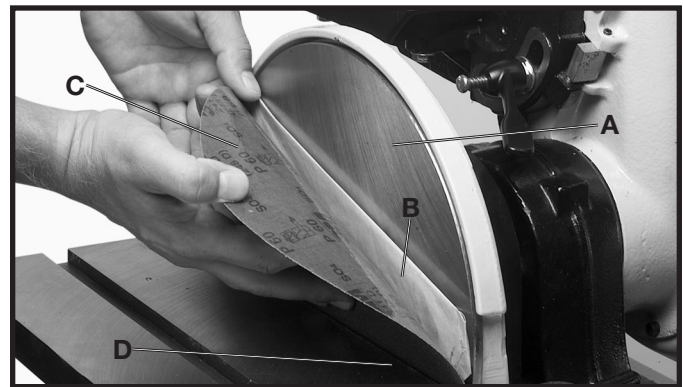

Fig. 8
1. Make certain the disc assembly (A) Fig. 8, is clean, dry, and free of any oil or grease.
2. Separate and fold back approximately half of the adhesive backing (B) Fig. 8, from the abrasive disc (C), supplied with the machine. Insert the abrasive disc (C), with the backing (B), between the table (D), and disc assembly (A), as shown in Fig. 8, and press the top half of the adhesive disc (C), in position.